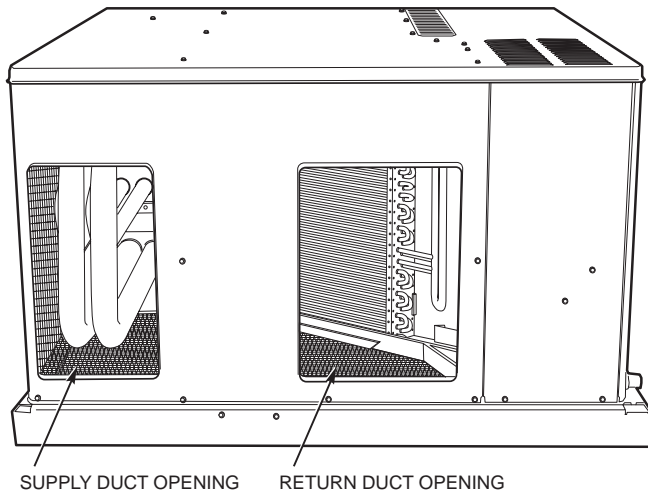

Fig. 12 — Supply and Return Duct Openings
2. Remove return duct cover located on duct panel. Figure 12 shows duct cover removed. Save duct cover and screws.
5. Remove supply duct cover located on duct panel. Figure 12 shows duct cover removed. Save duct cover and screws.